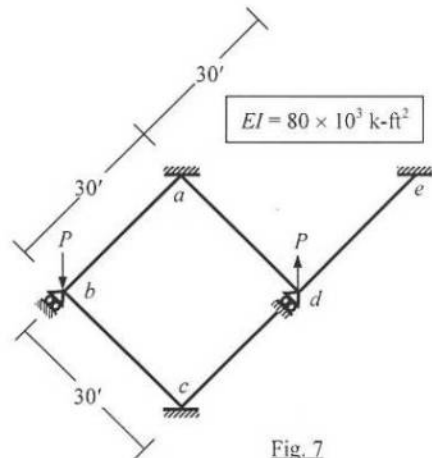

Fig. 7
8. Consider flexural deformations and geometric nonlinearity to calculate the critical buckling force P of the frame $abcde$ shown in Fig. 7.
9. Consider flexural deformations only to calculate the natural frequencies of the frame $abcde$ shown in Fig. 7 [Given: Weight per unit length = 1 k/ft].